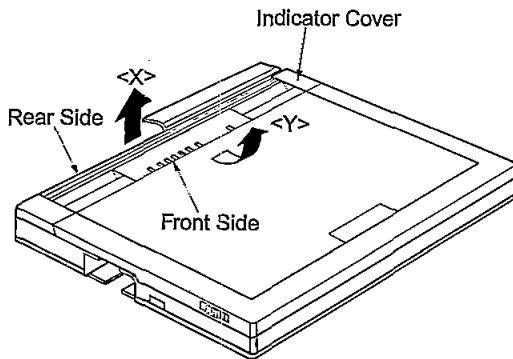

Figure 18
- (3) Turn over the computer again.
- (4) Raise the rear side of indicator cover in the direction of arrow <X>, then raise the front side of indicator cover in the direction of arrow <Y> and remove it as shown in Figure 18.
- (5) Remove one screw <C> ( $\varnothing 2 \times 8$  mm) and remove the LED indicator PCB.
- (6) Detach the flat cable from CN501.
- (7) Remove the LED Indicator PCB.